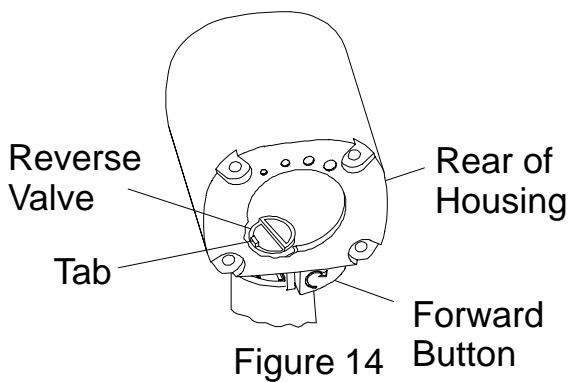

Figure 14
**NOTICE:** If the orientation of the Reverse Valve is not correct (tab facing the the rear of the Housing), the Trigger (33) and the Forward and Reverse Buttons (39) and (40) cannot be installed.
4. Install the Trigger O-ring (34) on the Trigger. Insert the Trigger Assembly in the front of the Housing.
6. Look through the Housing from the **rear**. If the tab on the Reverse Valve has been rotated to the **left**, install the **right** Button in the Housing. When one Button has been installed, push the Button in. This will rotate the Reverse Valve so that the other Button can be installed. See Figure 14.